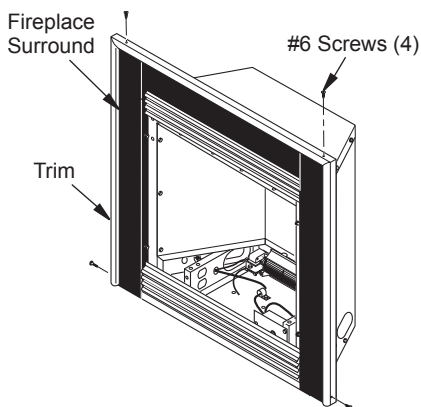

Figure 22 - Attaching Trim to Fireplace Surround
9. Install trim after final finishing and/or painting of wall (see Figure 22).
8. Line up holes in surround trim with holes on side panels of fireplace surround assembly. Attach with screws provided (see Figure 22).